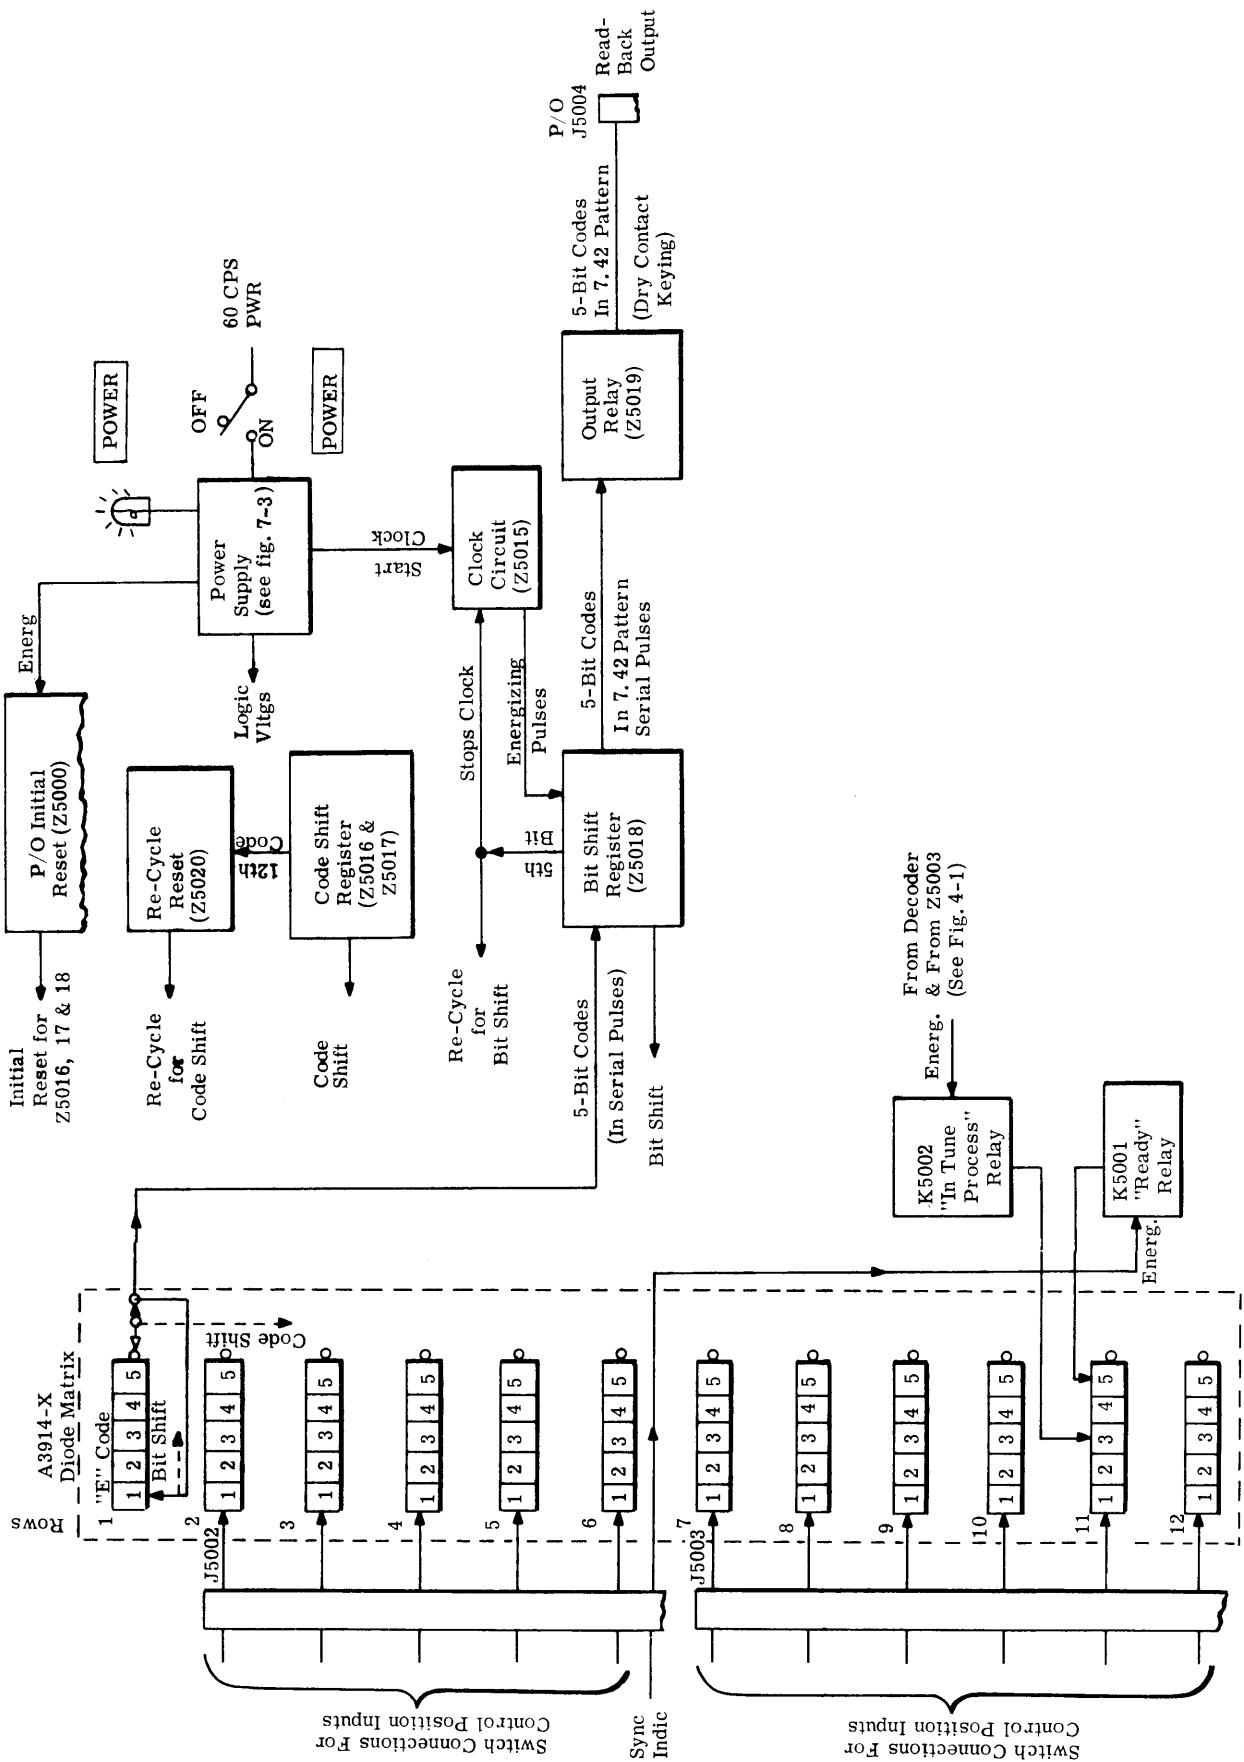

Figure 4-2. Functional Block Diagram, Readback Transmitter, RTMU
a. BLOCK DIAGRAM ANALYSIS - (Figure 4-2). The input of readout codes, representing equipment control positions, is applied by switch connections to pins of J5002 and J5003 receptacles. Connections made between pins of the receptacles and the A-3914-4 Diode Matrix result in a 5-bit code set up on each of the eleven control position readouts.